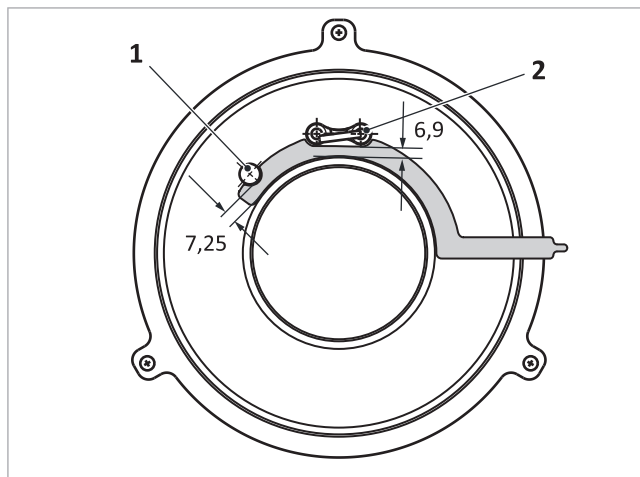

Fig. 47: Clearance from ionisation electrode and ignition electrode to burner tile
- Ionisation electrode → fig. 47 (1): 7.25 mm
- Ignition electrode → fig. 47 (2): 6.9 mm